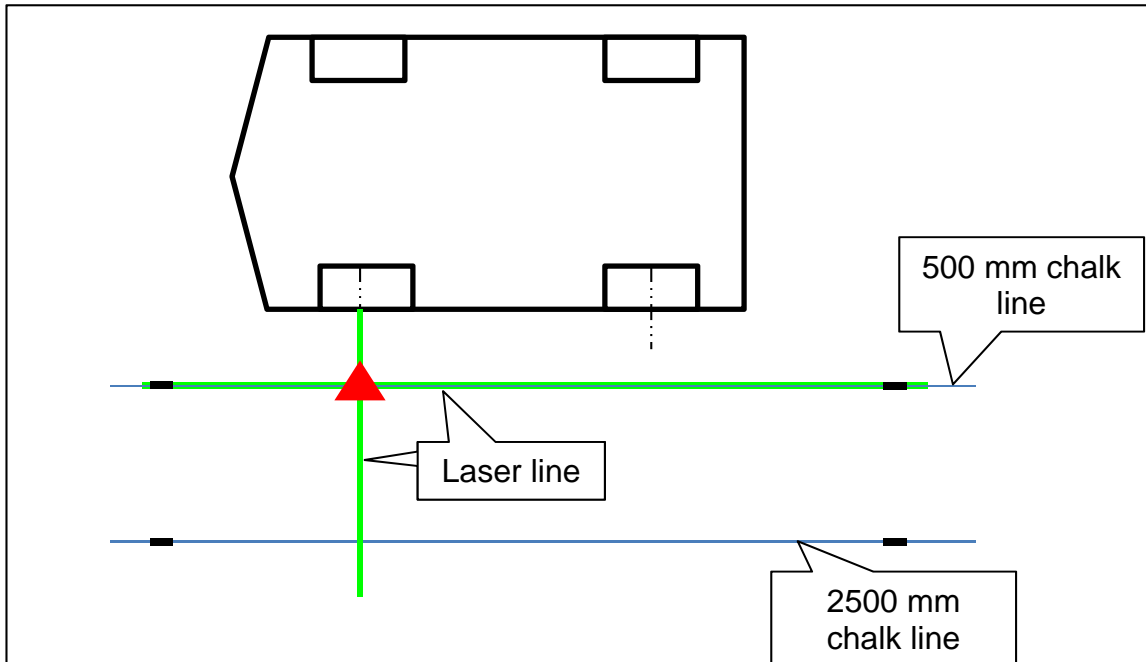
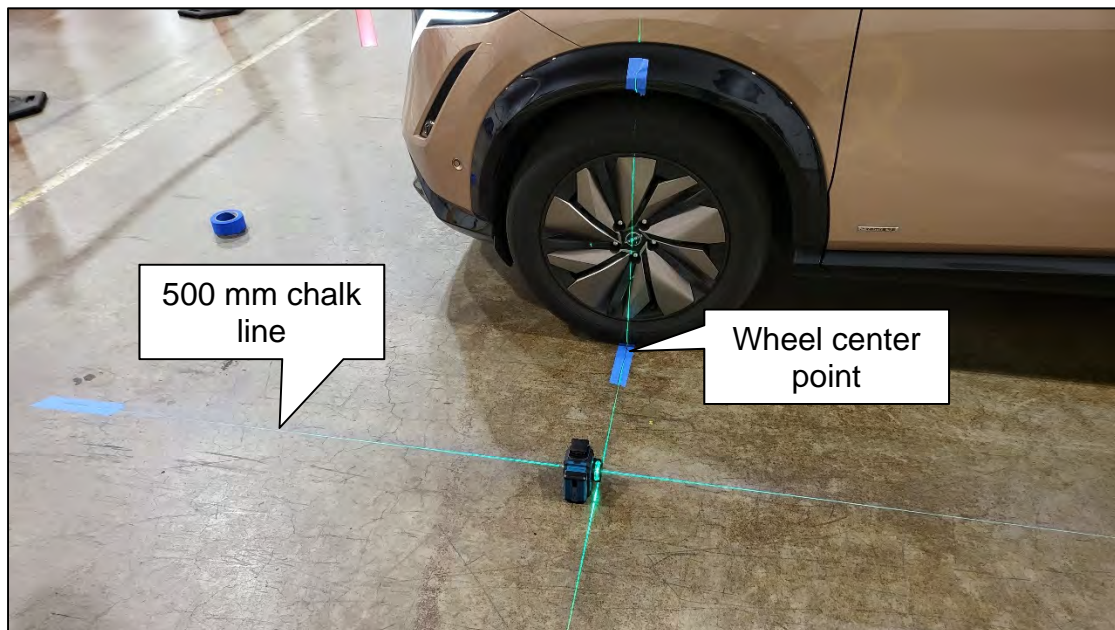

Figure 26
Figure 27
24. Place the laser level with both vertical lines activated, and align one laser line with the 500 mm chalk line and align the other laser line to the center point on the front driver (LH) side wheel, as shown in Figure 26 and Figure 27.